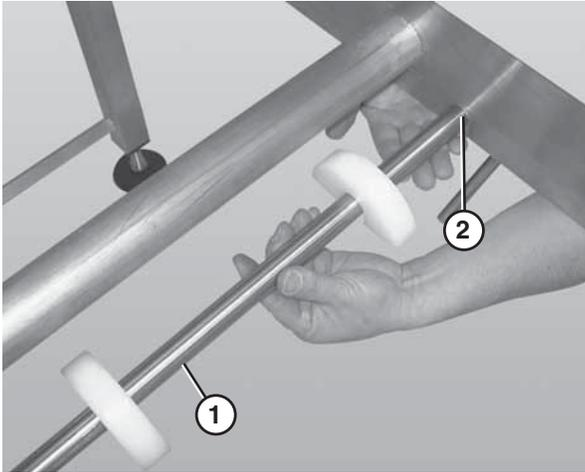

Figure 55
1. Remove the belt returns by pushing up on the return shaft (Figure 55, item 1) and sliding it through the large hole (Figure 55, item 2) in the frame.
2. Lower the opposite end of the return shaft (**Figure 55, item 1**) and slide it out of the frame.